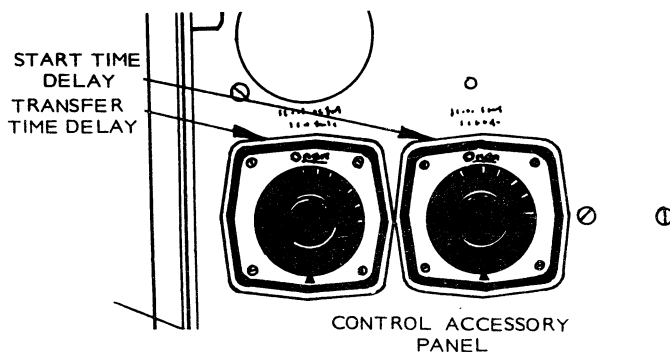

FIGURE 21. START AND TRANSFER TIME DELAY RELAYS
2. Turn the knob on the time delay clockwise to increase delay time, counterclockwise to decrease the delay time. See Figure 21.